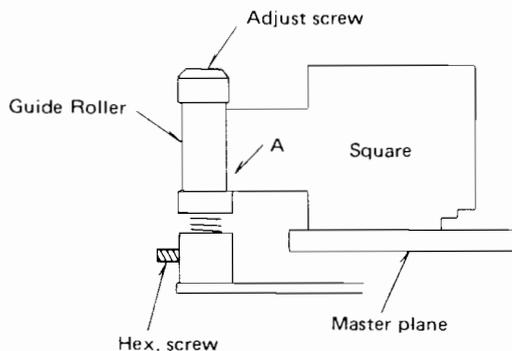

Fig. 1-7
1-6-1 Subloading Guide Roller Height (See Fig. 1-7)
1. Place the square between the collars of the guide roller. If this is not possible, loosen the hex screw and adjust the height of the guide roller by turning the \ominus screw on top of the guide roller. Refer to "A" in Fig. 1-7 below.